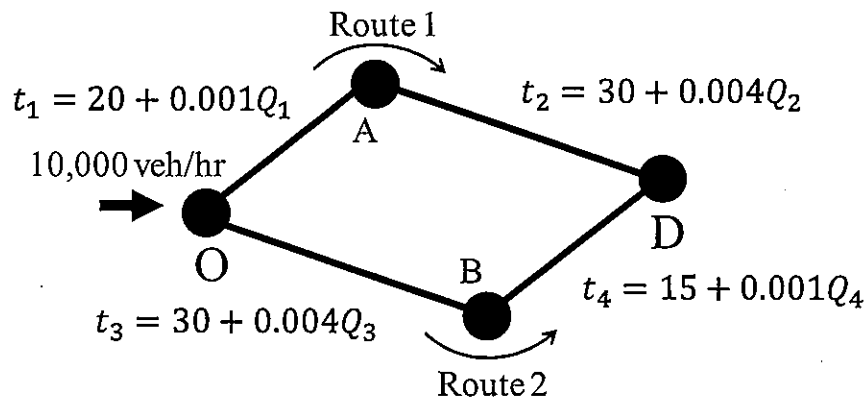

Figure 1 Setting of the transportation network
Assuming that there are two routes (route 1 and route 2) from point O to point D and the traffic volume in one direction is in total 10,000 veh/hr as illustrated in Figure 1, answer the following questions.
- (1) Explain Wardrop's first principle in traffic assignment in about three lines.
- (2) If the relationships between each link's traffic volume in one direction Q [veh/hr] and its travel time t [min] are as illustrated in Fig. 1, calculate the traffic volume of the route 1 in one direction according to Wardrop's first principle.
- (3) Because of severe traffic congestion, a new one-way link was constructed from the node A to B. Explain in about three lines what phenomenon will be observed after that.
- (4) Instead of constructing a new link, the traffic flow in the route 2 is now controlled by road pricing. Assuming the total traffic volume of 10,000 veh/hr is constant, calculate the amount charged to the traffic in the route 2 so as to control the traffic flow in the route 2 as 2,000 veh/hr. Here, the value of time is defined as 2,400 yen/hr.
- (5) Read the following paragraph about road pricing and judge whether each of the underlined descriptions (a) – (f) is True or False.